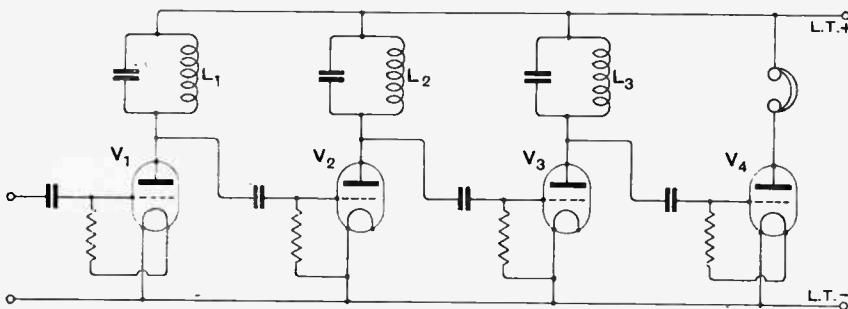

Fig. 1.—Intermediate frequency amplifier with "tuned anode" couplings.
In Fig. 1 is shown an arrangement on these lines, having a tuned anode input coil in series with the plate of the first detector, and two stages of intermediate frequency amplification coupled together on the same principle. There is, of course, no reason why three I.F. amplifiers should not be used, following standard practice.
Fig. 1.—Form of voltage amplification curve of double note amplifier under following conditions: Detector valve "R" followed by 3:1 transformer (primary 40 henries); first amplifier, D.E.5, followed by 4:1 transformer (primary 15 henries).
Fig. 2.—Output intensity curve (1) of arrangement indicated in Fig. 1 compared with curve (2) of variable characteristic amplifier under the following conditions: Detector D.E.5B resistance or choke coupled to D.E.5 with 2:1 transformer (primary 225 henries). The shaded area represents low tone loss of double transformer amplifier
transformer. Now let us compare the curves for two such amplifiers. The lower tones must be supplied electrically to a loud-speaker to be reproduced acoustically. The acoustic output depends upon the square of the ordinates of these curves, and to make the comparison more readily grasped Figs. 1 and 2 are given. With a loud-speaker of reasonable characteristics, can it seriously be expected that curve 1 (Fig. 2) will give the same acoustic result as curve 2? The answer must be "No." There is, however, an exception—the inevitable one which proves the rule to be man-made—when the loud-speaker has a *very weak lower register*. In this case the lack of sensitivity in the bass register is so great that no appreciable difference in quality would be detected with (1) an amplifier of uniform characteristic, (2) an amplifier which cuts off at, say, 400 cycles. We are, therefore, in a position to make a definite statement as follows: If there is no detectable difference between the output of a loud-speaker under the two preceding conditions, it follows that the loud-speaker has a defective lower register. Should the reader meet with this misfortune, I think he ought to endeavour to construct at least a temporary loud-speaker with a good lower tone register. By following the principles set forth in recent publications,1 there should be no difficulty in evolving some form of diaphragm instrument with a good bass. The results would give some satisfaction and would be an attempt to arrive at the truth—a very elusive attribute in this commercial era.